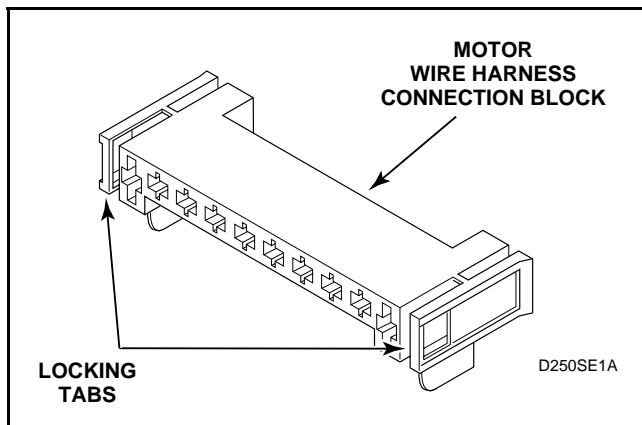

Figure 24
- (1.) Disengage motor wire harness terminal block from the motor by pressing in on the movable locking tabs (located on each side of the terminal block) and pulling away from motor. See *Figures 24 and 25*.